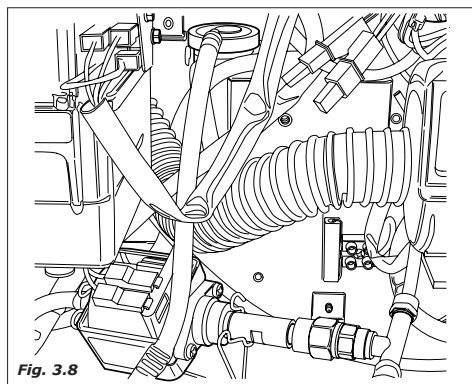

Fig. 3.8
- the pump that dispenses the quantity of programmed water and that is controlled by a specific electronic device, (volume meter), withdrawing the water from the coffee boiler (Fig.3.8).